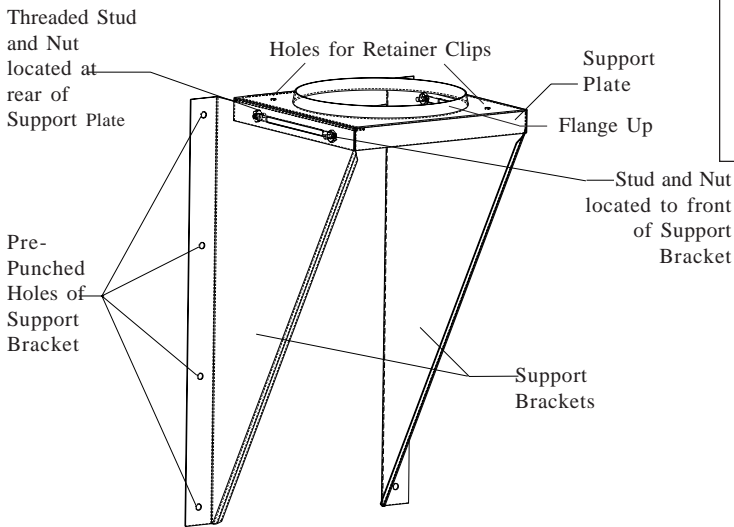

FIG. 10 - FRONT VIEW OF WALL SUPPORT ASSEMBLY
8. Attach the two (2) retainer clips to the bottom of the support plate and fasten with the supplied nuts and bolts using the two (2) holes on top of the support plate (see Figures 10 & 12).